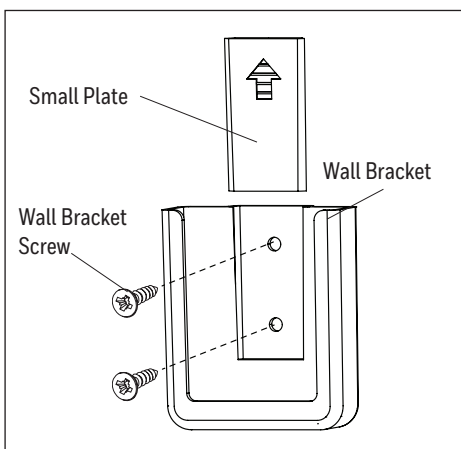

Figure 4.6
6. Remote control comes equipped with a wall bracket. If you wish to install the wall bracket, remove the small plate to expose the screw holes. Insert wall bracket screws through holes and into wall, then cover with the previously removed small plate. The remote can be stored in the wall bracket for easy access (Figure 4.6).